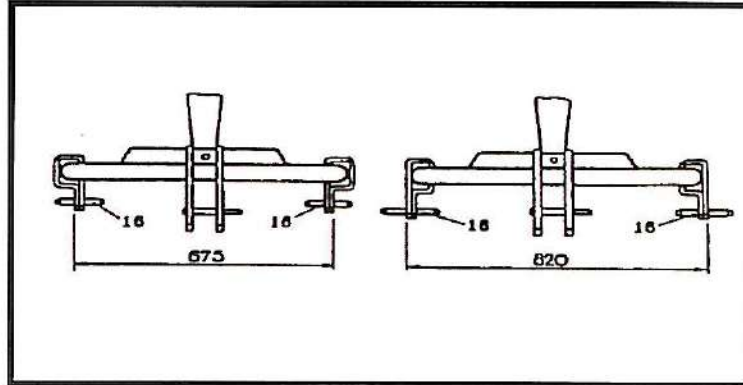
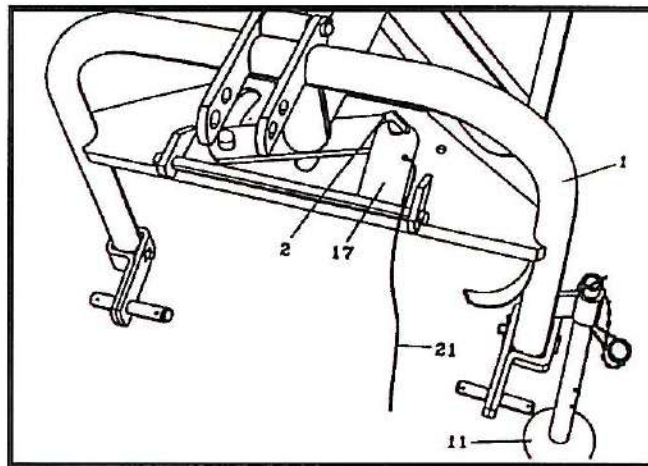

Fig. 3. Spacing of pins of bottom catches of three-point frame.
Fig. 5. Blocked joint between the three-point frame and intermediate frame.
While transporting the joint is blocked with a locking pawl 17 (Fig. 5.). Movable bottom catches 16 (Fig.3.) and driving wheels 14 enable rotors 4 and 5 with teeth 15 to adapt to the surface of the ground crosswise to the direction of driving.
- Fit the spacing of the bottom catches 16 of the three-point frame 1 to the three-point suspension system of the tractor (Fig. 3.)
- Lift the rake-tedder, relieve the support 11 (Fig. 5.), lift it and block in the high position.
- Lower the rake-tedder, move the tractor slightly to the right and block the joint between the three-point frame 1 and intermediate frame 2 with the locking pawl 17 (Fig. 5.)